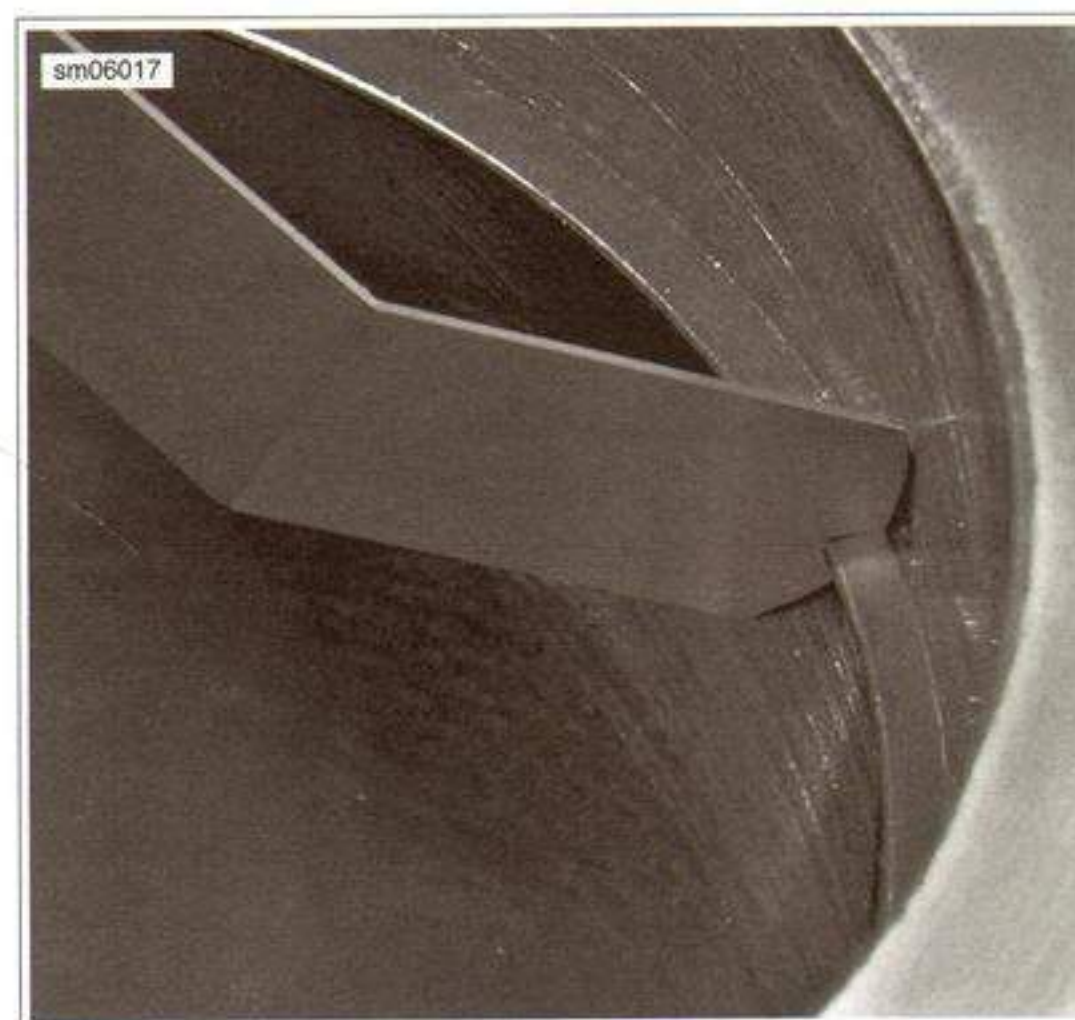

Figure 3-102. Ring End Gap
2. See Figure 3-102. For each ring, measure ring end gap.